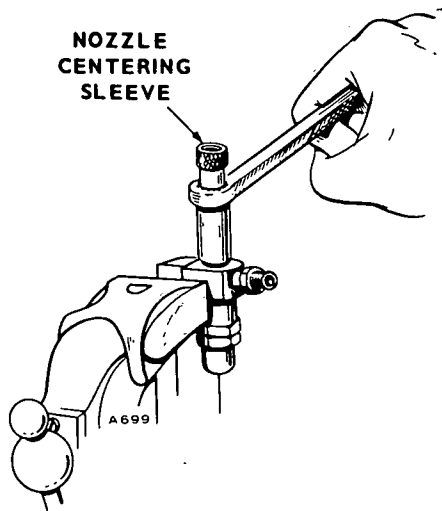

FIGURE 19. TIGHTENING NOZZLE CAP NUT
5. Place the centering sleeve over the nozzle (Figure 19) for initial tightening. Then remove the centering sleeve to prevent it from binding between nozzle and cap nut and tighten the nozzle cap nut to specified torque.